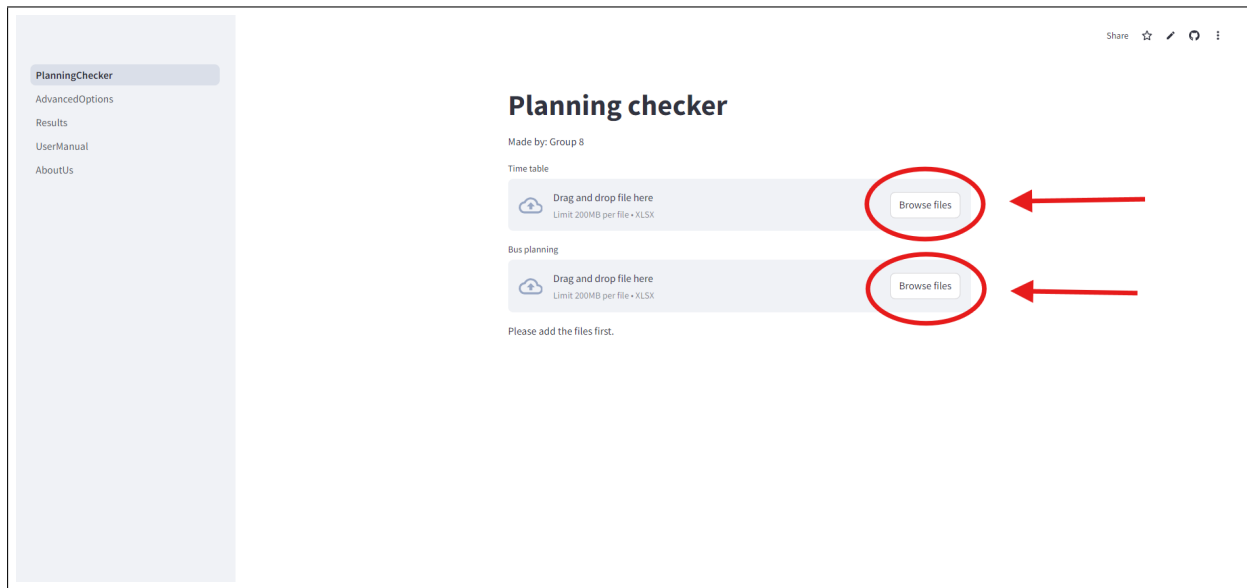

Figure 1: The home screen with the upload buttons highlighted.
2. On the ‘PlanningChecker’ page, click on the ‘Browse files’ button and upload the correct file (see figure 1).